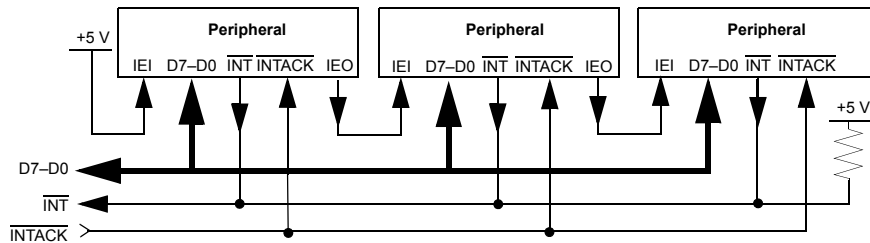

Figure 8. SCC Interrupt Priority Schedule
Interrupt Pending (IP), Interrupt Under Service (IUS), and Interrupt Enable (IE). Operation of the \overline{IE} bit is straight forward. If the \overline{IE} bit is set for a given interrupt source, then that source can request interrupts. The exception is when the MIE (Master Interrupt Enable) bit in WR9 is reset and no interrupts can be requested. The IE bits are Write only. The other two bits are related to the interrupt priority chain (see Figure 8). As a microprocessor peripheral, the SCC can request an interrupt only when no higher priority device is requesting one, that is, when IEI is High. If the device in question requests an interrupt, it pulls down \overline{INT} . The CPU responds with \overline{INTACK} , and the interrupting device places the vector on the data bus.